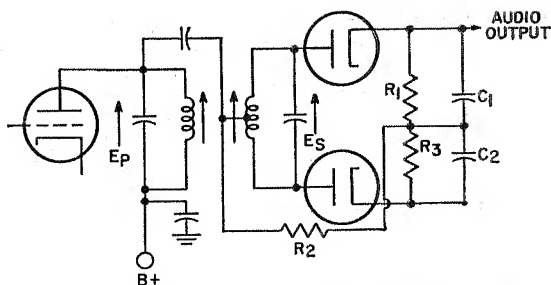

Fig. 30—Balanced phase-shift discriminator circuit.
The faults of the simple circuit are overcome in a push-pull arrangement, such as that shown in Fig. 30, called a **balanced phase-shift discriminator**. In this detector, the mutually coupled tuned circuits in the primary and secondary windings of the transformer T are tuned to the center frequency. A characteristic of a double-tuned transformer is that the voltages in the primary and secondary windings are 90 degrees out of phase at resonance, and that the phase shift changes as the frequency changes from resonance. Therefore, the signal applied to the diodes and the RC combinations for peak detection also changes with frequency.
Because the discriminator circuit shown in Fig. 30 uses a push-pull configuration, the diodes conduct on alternate half-cycles of the signal frequency and produce a plus-and-minus output with respect to zero rather than with
One disadvantage of the balanced phase-shift discriminator shown in Fig. 30 is that it detects audio modulation (AM) as well as frequency modulation (FM) in the if signal because the circuit is balanced only at the center frequency. At frequencies off resonance, any variation in amplitude of the if signal is reproduced to some extent in the audio output.
The dc circuit of the ratio detector consists of a path through the secondary winding of the transformer, both diodes (which are in series), and resistors  $R_1$  and  $R_2$ . The value of the electrolytic capacitor  $C_3$  is selected so that the time constant of  $R_1$ ,  $R_2$ , and  $C_3$  is very long compared to the detected audio signal. As a result, the sum of the detected voltages ( $E_1 + E_2$ ) is a constant and the AM components on the signal frequency are suppressed. This feature of the ratio detector provides improved AM rejection as compared to the phase-shift discriminator circuit shown in Fig. 30.
insensitive to amplitude variations in the FM signal. In this circuit,  $E_p$  is added to  $E_s/2$  through the mutual coupling  $M_2$  (this voltage addition may be made by either mutual or capacitive coupling). Because of the phase-shift relationship of these voltages, the resultant detected signals vary with frequency variations in the same manner as described for the phase-shift discriminator circuit shown in Fig. 30. However, the diodes in the ratio detector are